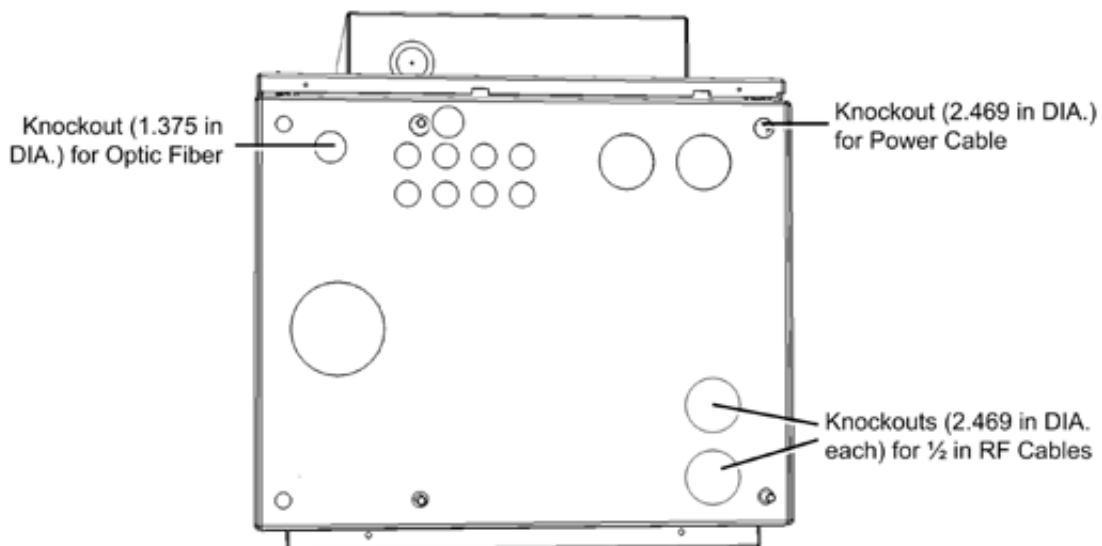
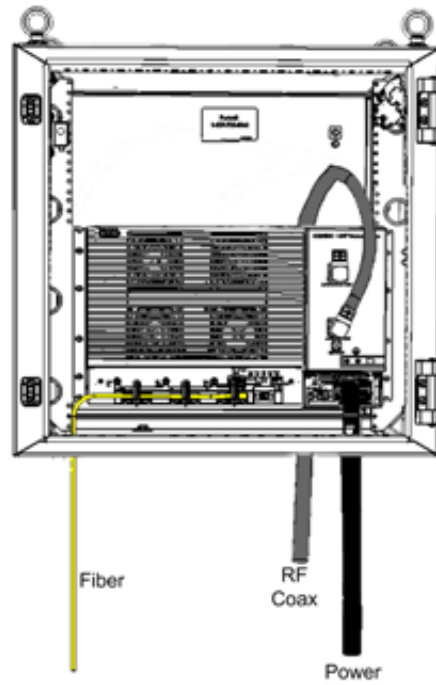

Figure 6-13. Required Knockouts Positions
Figure 6-18. Example of Routed Connection Cables
- Recommended - flexible cable conduits for routing connections cables through cabinet knockouts; refer to Figure 6-13 for relevant knockouts; Following are recommended Heyco part numbers for flexible conduits:
- Referring to Figure 6-13 for relevant knockouts, use appropriate knockout tools to punch out knockouts for routing connection cables.
2. Connect RF antenna coax - (for both 4.3-10 Type "ANTENNA PORT" and "2.5GHz INPUT PORT") route coax cable with 90° right angle connector through its' designated knockout (see Figure 6-13) behind and above the MRU chassis and connect to the corresponding RF port. Refer to Figure 6-18.
4. Route optical fiber from ICU and power cable through designated knockouts (see Figure 6-13) and connect according to instructions in Section 4.4. Refer to Figure 6-18.